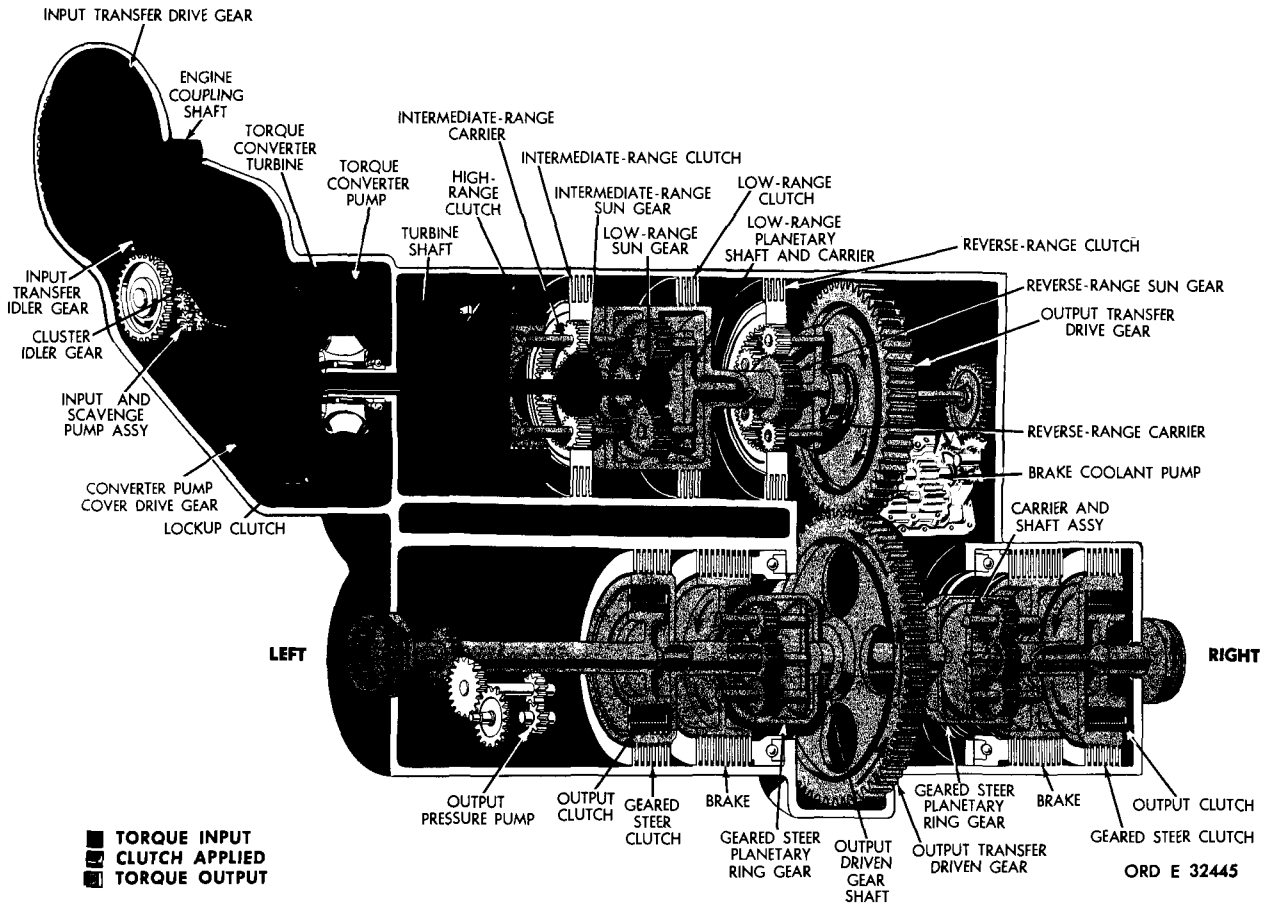

Figure 26. Fourth-gear torque path, lockup operation
50. TORQUE PATH - FOURTH GEAR, LOCKUP OPERATION (fig. 26)